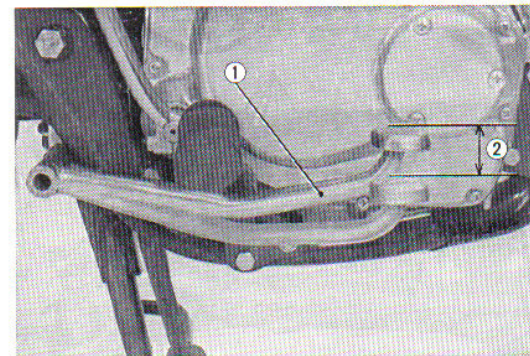

Fig. 6.39 Brake pedal free play
① Front brake arm ② Lock nut
③ Adjusting nut
- a. Raise the rear wheel off the ground and check the free play ② of the brake pedal ① in the same way as for the front brake, the play should be 0.8~1.2 in (2~3 cm). (Fig. 6.39)